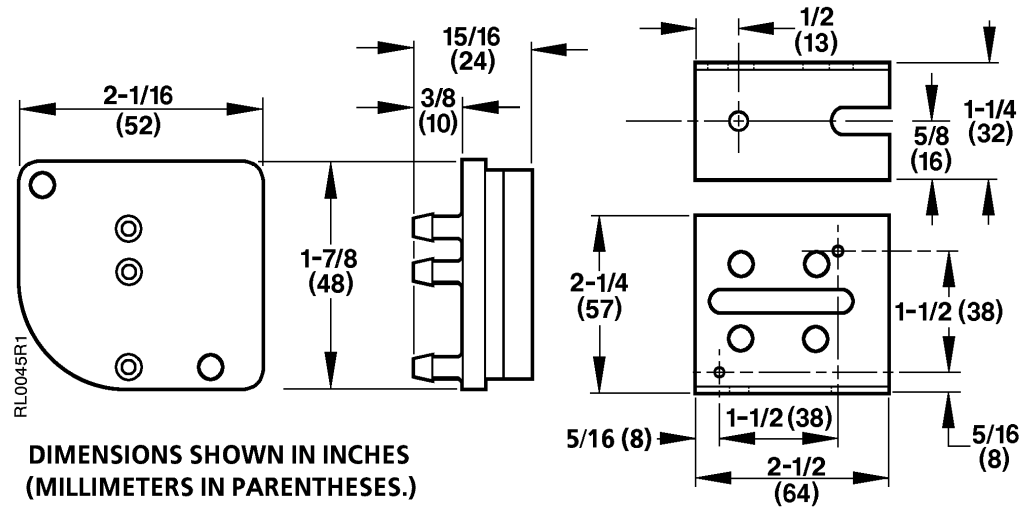

Figure 3. Dimensions of the Selector and the Mounting Bracket.
Dimensions	See Figure 3
- See Figure 3 for the dimensions of the signal selector and mounting bracket.